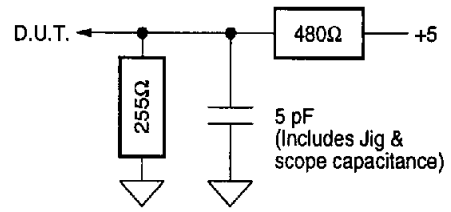

Figure 1b. Output Disable Timing Load
6. Transition is measured  $\pm 500mV$  from steady-state voltage with load of Figure 1B. This parameter is sampled rather than 100% tested. At any given voltage and temperature,  $t_{CHZ}$  max is less than  $t_{CLZ}$  min for a given device and from device to device.